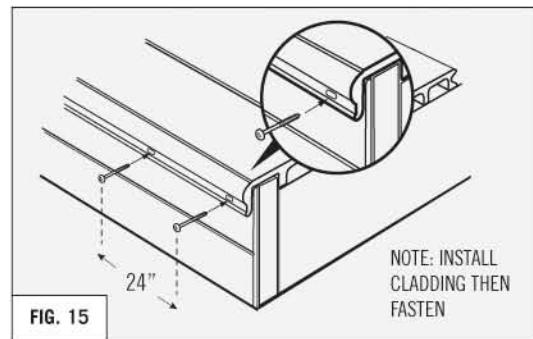

FIG. 15
- Drive #8 x 2" deck screws into the bullnose lip. Tighten screws just until the head of the screw contacts the bullnose lip, and before the screw pulls the bullnose lip towards the joist. **(REFER TO FIG. 15)**